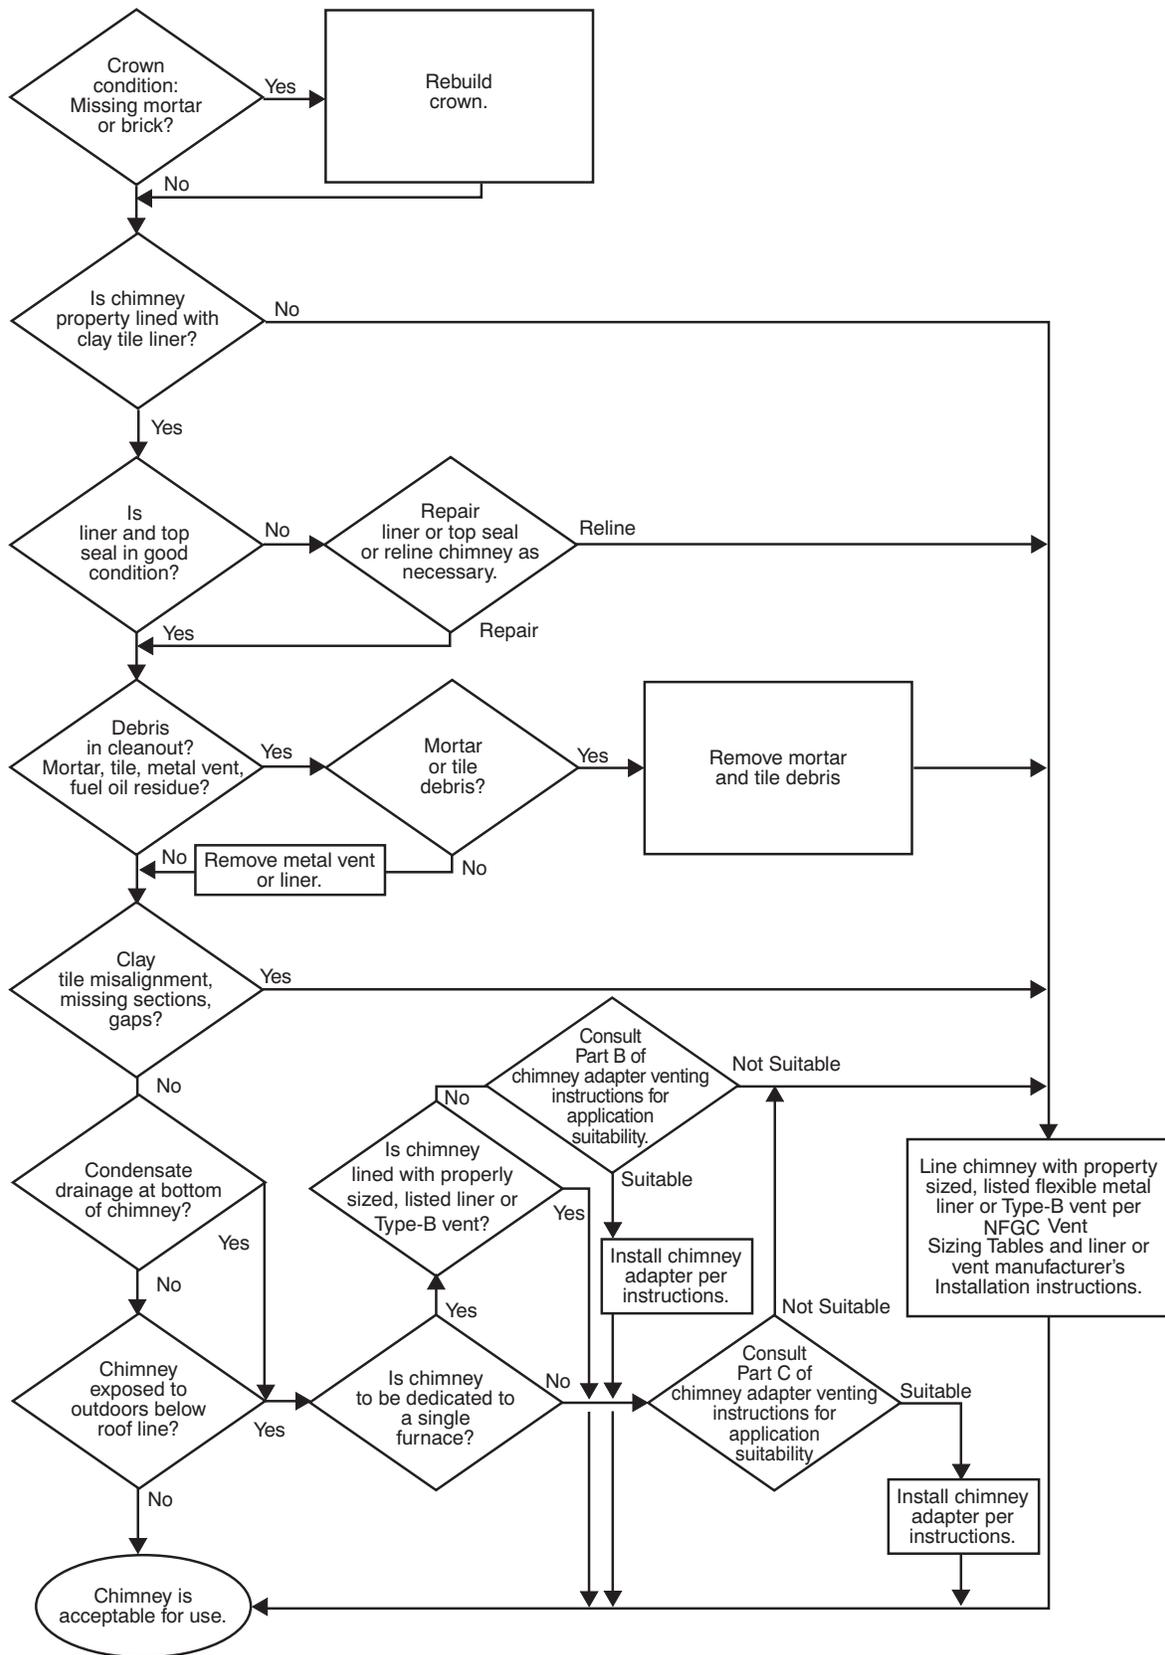

Fig. 31 - Chimney Inspection Chart
7. Do not vent this appliance into an unlined masonry chimney. Refer to Chimney Inspection Chart, Fig. 31.
Inspections before the sale and at the time of installation will determine the acceptability of the chimney or the need for repair and/or (re)lining. Refer to the Fig. 31 to perform a chimney inspection. If the inspection of a previously used tile-lined chimney: